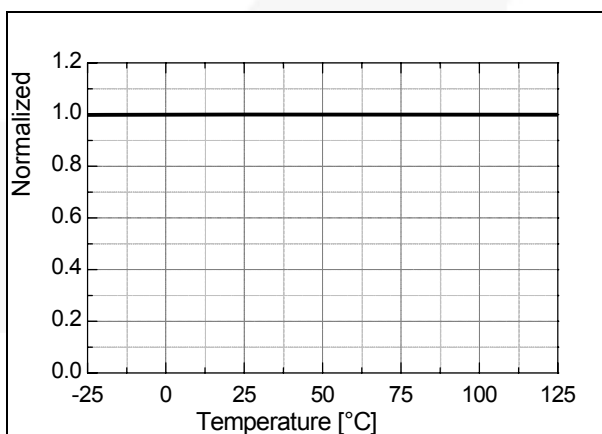

Figure 30. Sync Low Threshold Voltage 2 (V_{SL2}) vs. T_A
4.2 Abnormal Over-Current Protection (AOCP): When the secondary rectifier diodes or the transformer pins are shorted, a steep current with extremely high di/dt can flow through the SenseFET during the LEB time. Even though the FSQ-series has overload protection, it is not enough to protect the FSQ-series in that abnormal case, since severe current stress is imposed on the SenseFET until OLP triggers. The FSQ-series has an internal AOCP circuit shown in Figure 30. When the gate turn-on signal is applied to the power SenseFET, the AOCP block is enabled and monitors the current through the sensing resistor. The voltage across the resistor is compared with a preset AOCP level. If the sensing resistor voltage is greater than the AOCP level, the set signal is applied to the latch, resulting in the shutdown of the SMPS.